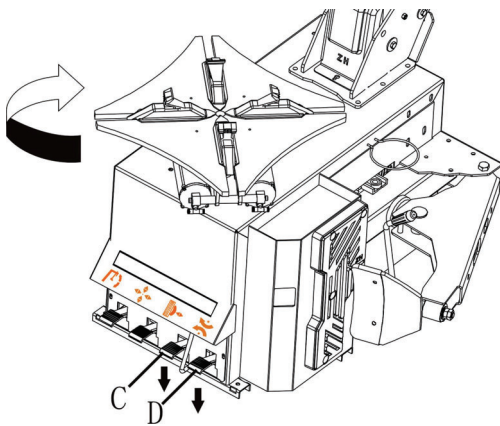

Fig.13
- Operation test: after power connected, press pedal D (Fig.13), turntable will turn clockwise. This test is very important.